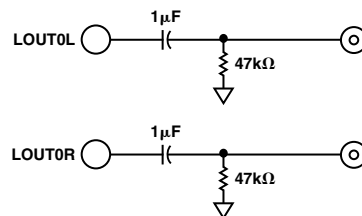

Figure 13. Line Output Connections
Figure 13 shows ac-coupled line outputs. The resistors are used to center the output signals around analog ground. If dc-coupling is desired, CMOUT could be used with op amps as mentioned below.
- The AD1849K was designed to require no external low-pass filters on analog outputs. As shown in Figure 13, the AD1849K only requires ac-coupling capacitors and resistors to line-level dc bias. In contrast, the CS4215 has a single-pole passive filter for its recommended line-level output circuit. Though overkill for the AD1849K, this output circuit will work with the AD1849K as well.